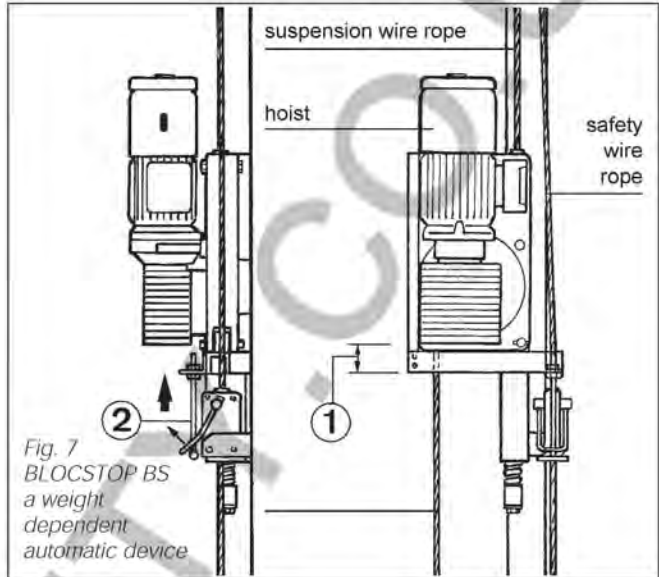

Fig. 7
The hoist is not rigidly fixed to the cradle. It initially slides upwards a short distance in a guiding device before lifting the load. The effect of this movement (1) is to raise the release lever (2) of the rigidly fixed BLOCSTOP (Fig. 7).